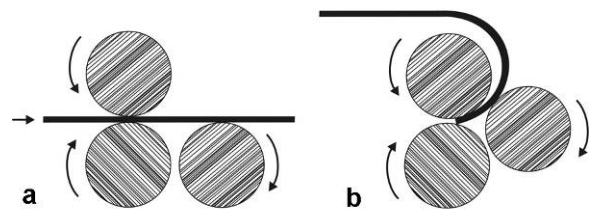

Figure 3
3. When the material reaches the point where the radius is to begin (A, Figure 3), stop the machine and raise the idler roll an equal amount on each end to achieve the desired bend.
4. Re-start the rolls and continue until the bend is completed (B, Figure 3). Support the workpiece as it exits the machine.